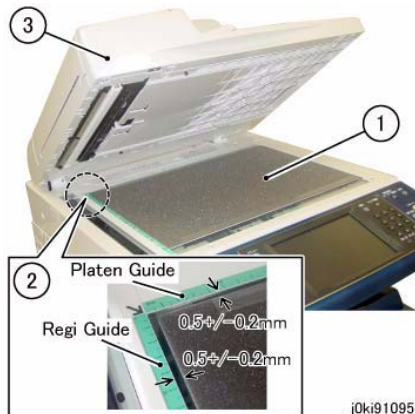

Figure 2 Paste on the DADF Platen Cushion
1. Paste on the DADF Platen Cushion. (Figure 2)